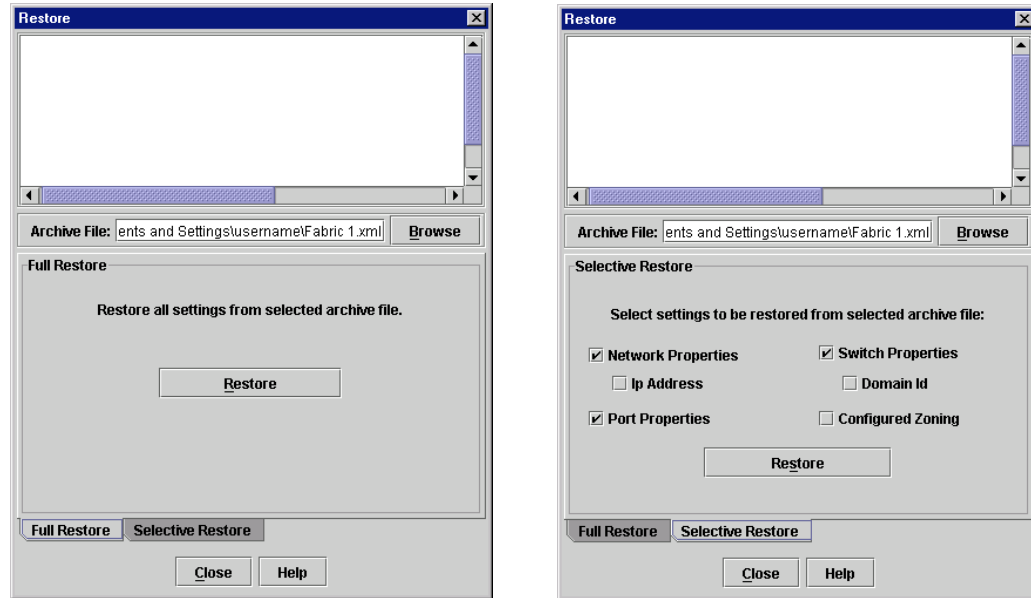

Figure 4-12. Restore Dialogs – Full and Selective
2. Open the Switch menu in the faceplate display and select **Restore** to display the Restore dialog shown in Figure 4-12. The Restore dialog offers a **Full Restore** and a **Selective Restore** tab.